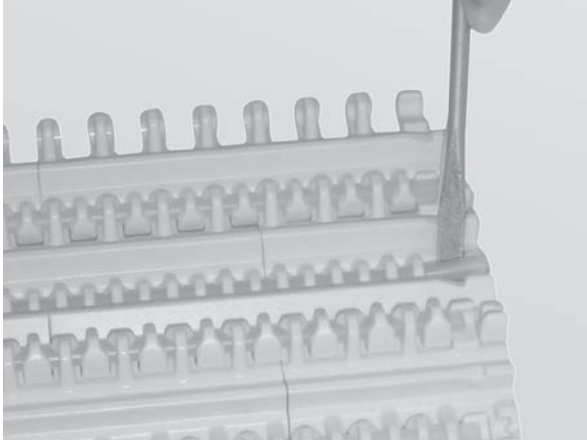

Figure 50
2. Use a flat head screwdriver to raise the end of the belt rod above the retention lip (**Figure 50**).